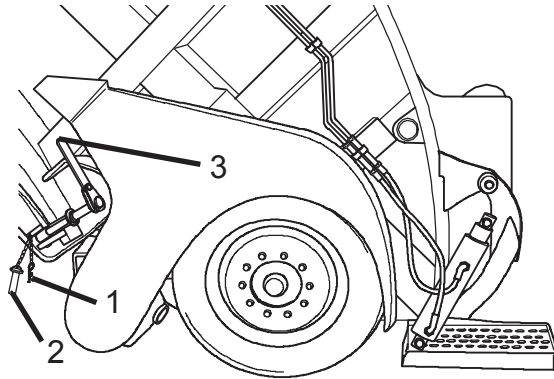

Figure 50
1. Remove the hair pin clip (Figure 50, Item 1) from the safety pin (Figure 50, Item 2) and remove the safety pin. Repeat this step on the other sides of the tailgate.
2. Loosen and swing the turnbuckle (Figure 50, Item 3) out of the slot and away from the tailgate.